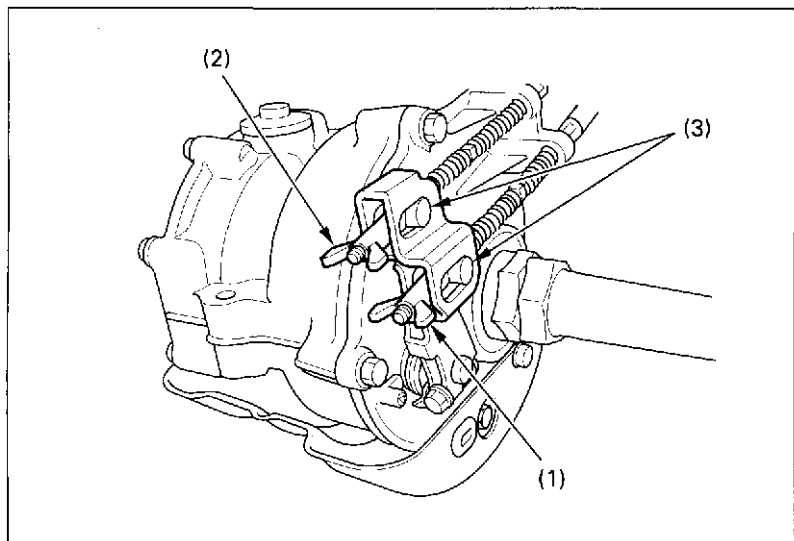

Fig. 4-25 (1) Brake pedal adjusting nut
To adjust the free play, turn the brake pedal adjusting nut (Fig. 4-25), located on the brake operating rod at the rear of the frame.
To adjust the free play, turn the brake lever adjusting nut (Fig. 4-25), located on the brake operating rod at the rear of the frame. Make sure the cut-out on the adjusting nut is properly seated on the brake arm pin (3).